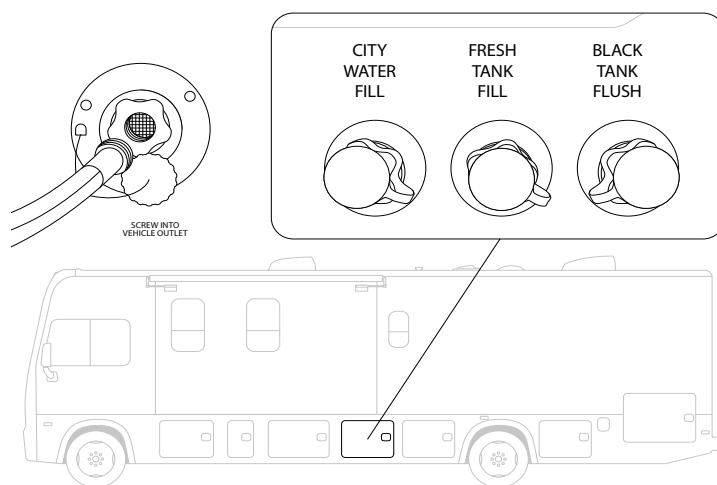

FIGURE 9: FRESH WATER INTAKE & CAMPSITE/CITY WATER CONNECTION
6. Contact campsite staff if there is no breaker located on the campsite power pole and you don't see 4 red LED lights when pushing and holding the BATT button on the monitor panel. See FIGURE 9: ELECTRIC HOOK UP on page 18.
See FIGURE 9: FRESH WATER INTAKE on this page.
See FIGURE 9: CAMPSITE/CITY WATER CONNECTION on this page.